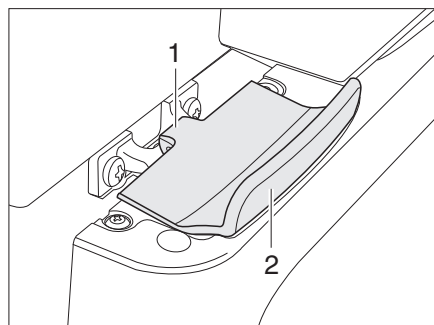

Fig. 147 Lock of refrigerator door, closed (Thetford)
- Open the refrigerator door at the handle (Bild 147,2). The lock (Bild 147,1) is released automatically.